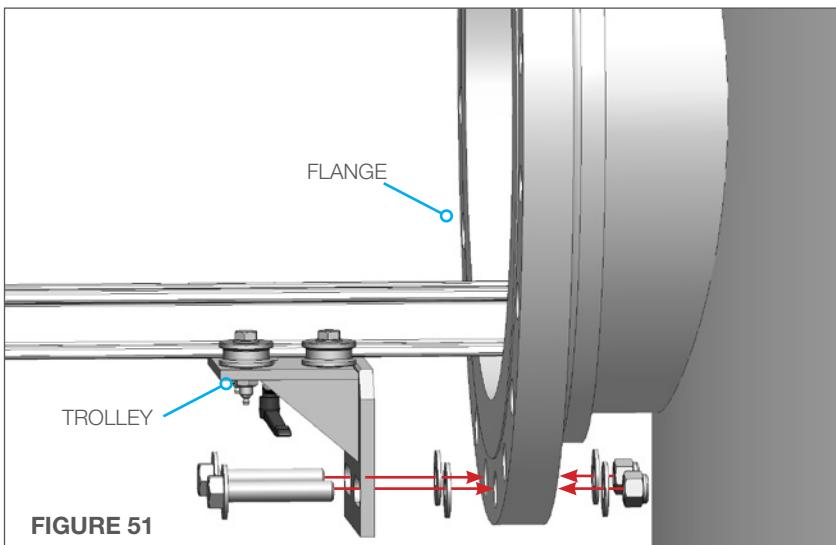

FIGURE 51
1. Fasten the Trolley in the six O'Clock position on the flange of the man way. Use two 3/4" x 4" Hex Bolts, four 3/4" flat washers and two 3/4" Lock Nuts. Install one set of washers on either side of the flange as shown in (**Figure 51**).